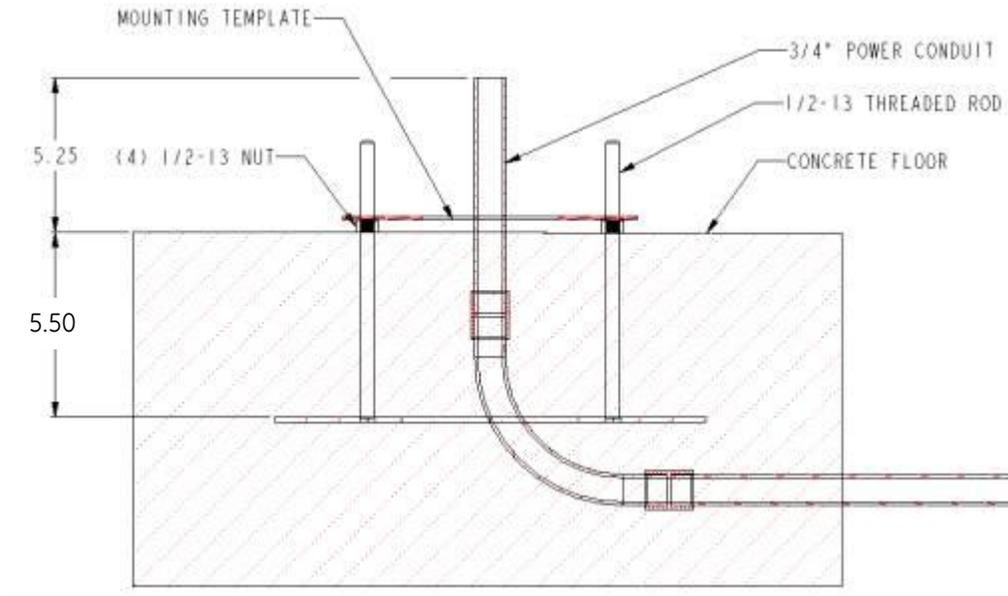

Figure 13
Install conduits for power wire and communication wire (if required). Allow approximately 5" length for each conduit above the concrete level as shown in Figure 13. Cut as necessary to final dimensions. Route power conduit and communication conduit through the center of the hole in the mounting template, appropriately.
Adjust (4) 1/2-13 nuts to position height as shown in Figure 13.
Pour concrete to level shown in Figure 13. Do not cover the 1/2-13 nuts with concrete. Remove mounting template from threaded rods after concrete has cured. Do not remove 1/2-13 nuts as they are used for leveling the skirt.